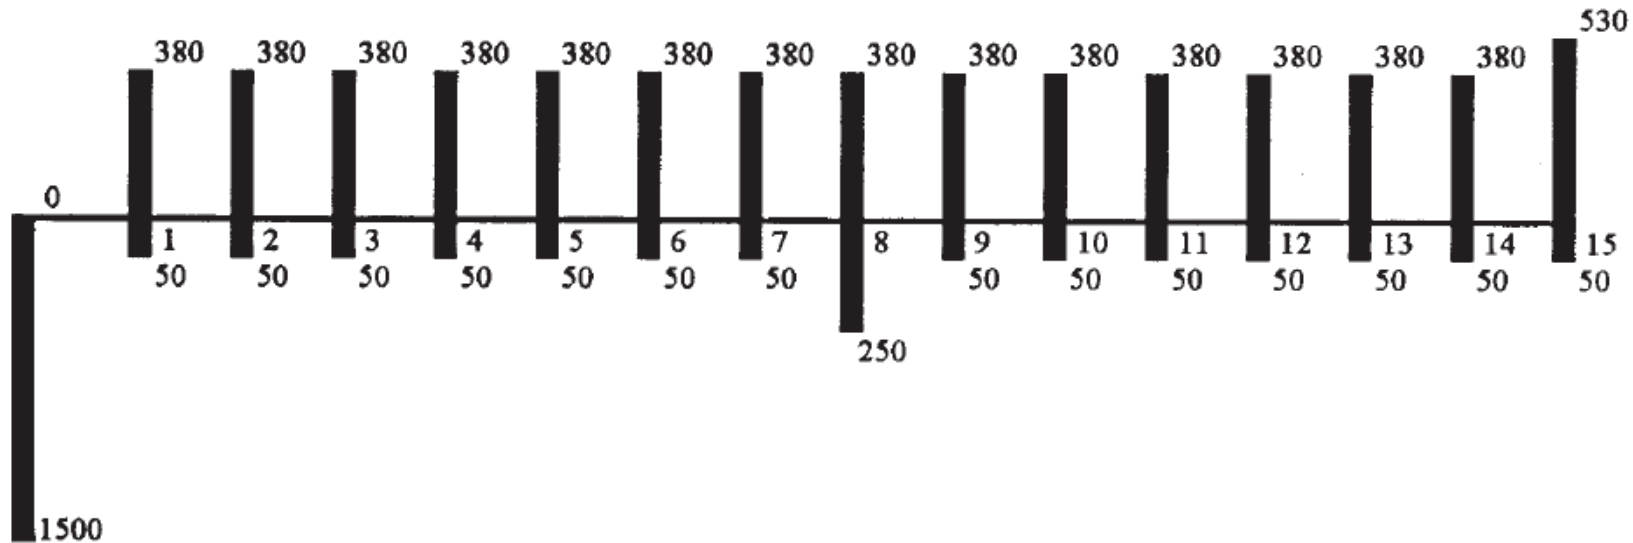

Figure 4.2. Heat pump and baseboard system differential life cycle costs
- ❑ *Figure 4.2 illustrates a cash flow diagram.*
During the analysis phase, it is useful to show the **Minimum Attractive Rate of Return** (an interest rate used to account for the time value of money within the problem) on the cash flow diagram, although this has been omitted in Figure 4.2.